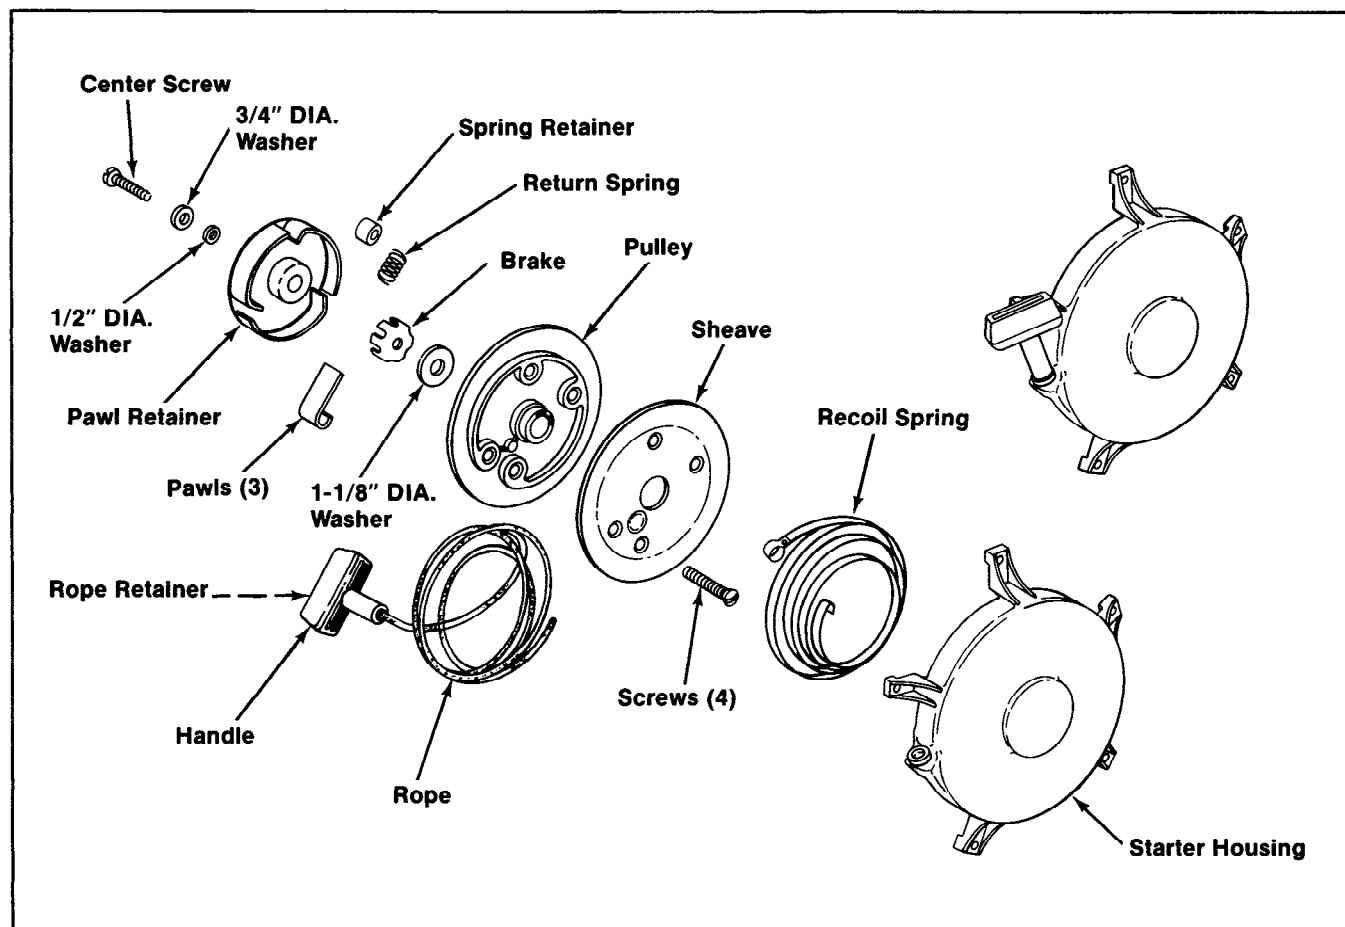

Figure 7-11. Exploded View.
2. Replace all worn or damaged components. Use only genuine Kohler replacement parts specified in the Parts Manual. All components shown in Figure 7-11 are available as service parts. Do not use nonstandard parts.